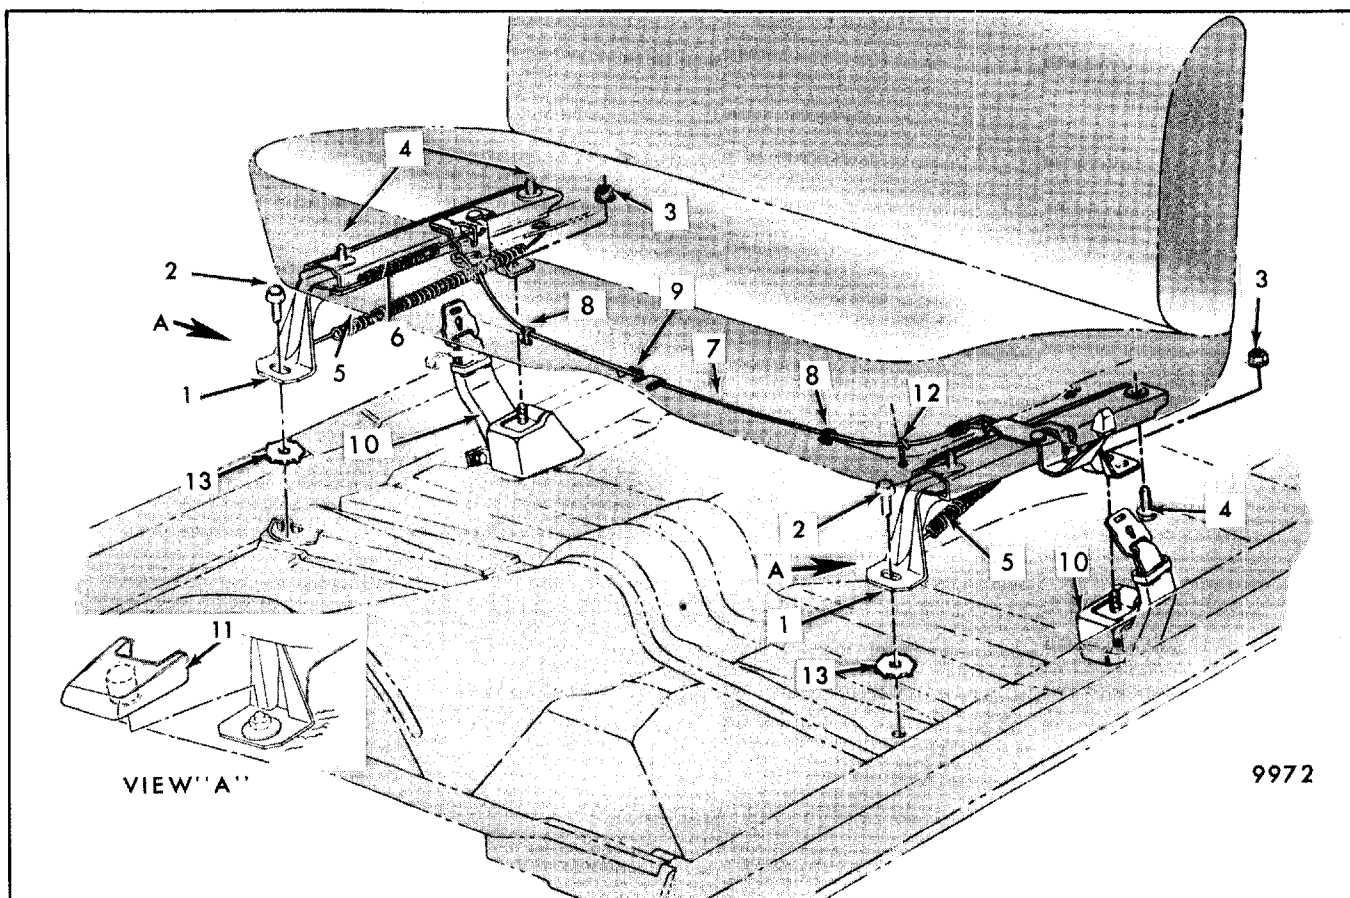

Fig. 9-46 - X Style Manually Operated Full Width Seat and Adjusters
3. Figure 9-46 - X Style Manual Full Width Seat
- Figure 9-46 - X Style Manual Seat Adjusters - Full Width Seat
unlock satisfactorily when control handle is operated, adjust locking wire as described under Adjuster Locking Wire Adjustments (see Figs. 9-46 and 9-47).